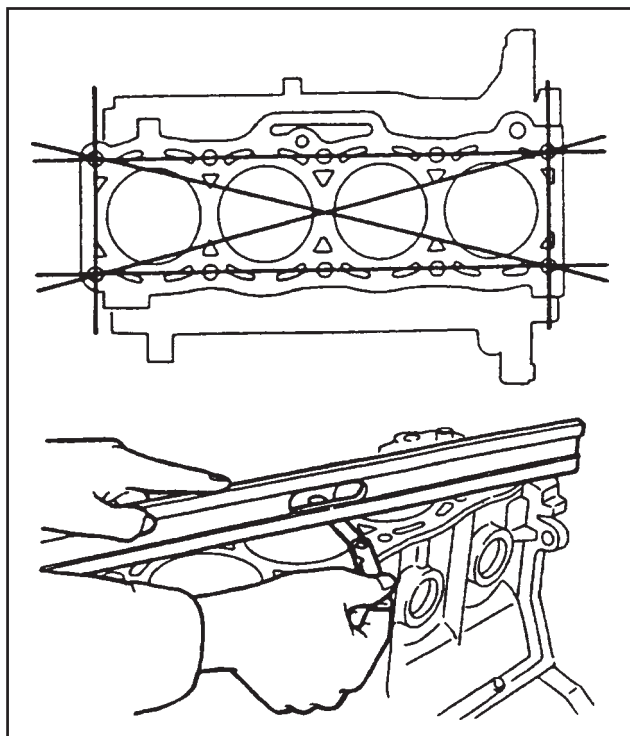

FIGURE 39. INSPECT THE CYLINDER BLOCK
1. After the engine block is cleaned, check its surface for distortion. See FIGURE 39. If the amount of distortion is greater than 0.15 mm, grind the surface of the engine block. The maximum amount of correction that is permitted is 0.20 mm.